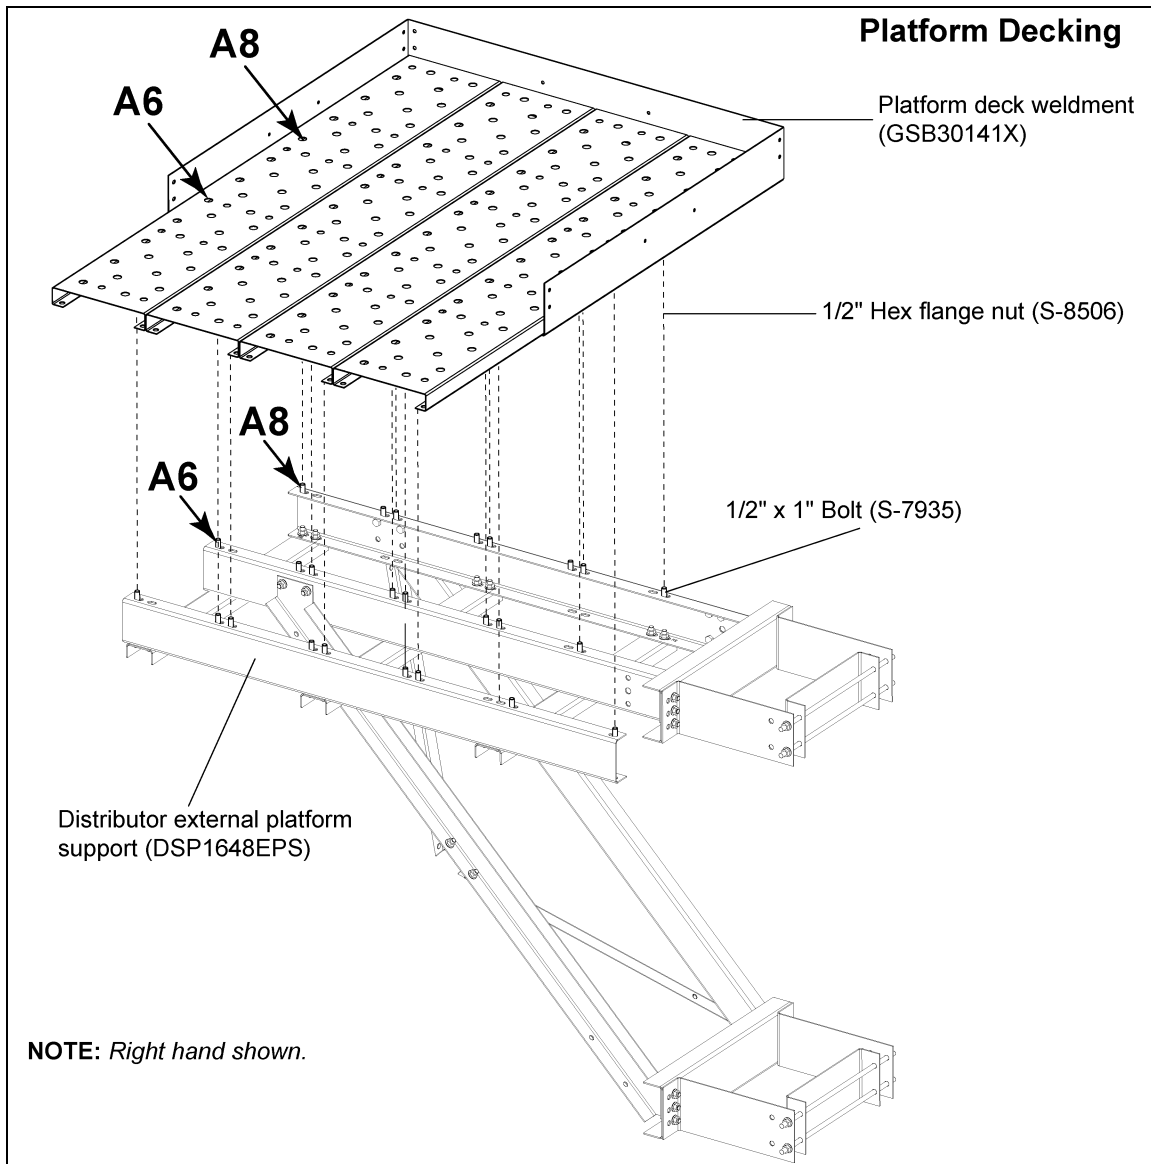

Figure 12D
2. Install platform decking weldment to the platform support channels using twenty four (24) 1/2" x 1" bolt and nuts. (See Figure 12D.)